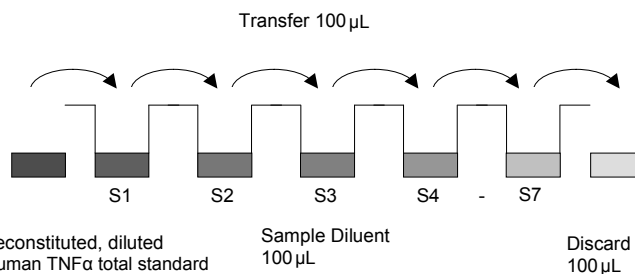

Fig. 1 Dilute standards - microwell plate.
- Add 100 µL of Sample Diluent in duplicate to all standard wells. Pipet 100 µL of prepared standard (see “Preparation of standard” on page 2), (concentration = 3000.0 pg /mL) in duplicate into well A1 and A2. Mix the contents of wells A1 and A2 by repeated aspiration and ejection (concentration of standard 1, S1 = 1500.0 pg/mL), and transfer 100 µL to wells B1 and B2, respectively (see Figure 1). Take care not to scratch the surface of the microwells. Continue this procedure 5 times, creating two serially diluted columns of human TNFα total standard dilutions ranging from 1500.0–23.4 pg/mL. Discard 100 µL from the last microwells (G1/G2). Final volume in all wells is 100 µL.